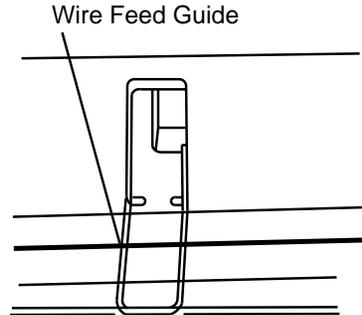

Figure 6-14. Model 602 Wire Feed Guide
- 11.11. Close the rear cover, and swing the wire feed guide over to rest on the pull-up roller assembly. See Figure 6-14. The wire feed guide keeps the paper from curling back into the ROP.